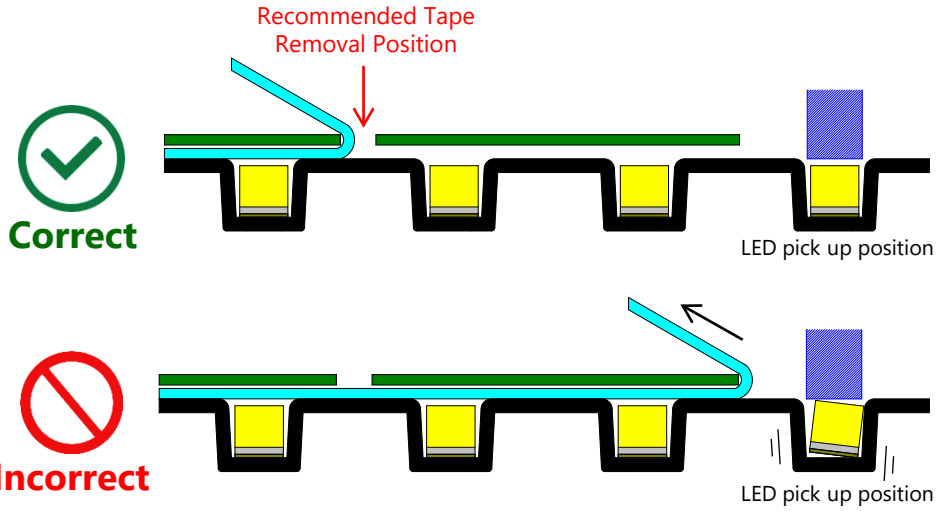

Figure 4. Examples of Correct/Incorrect Top Cover Tape Removal Positions
- When removing the top cover tape, it should be done at a point sufficiently far away from the target LED (See Figure 4 for the details). Otherwise, it can shake the embossed carrier tape and cause the LED to move within the tape pocket or outside of the tape pocket.